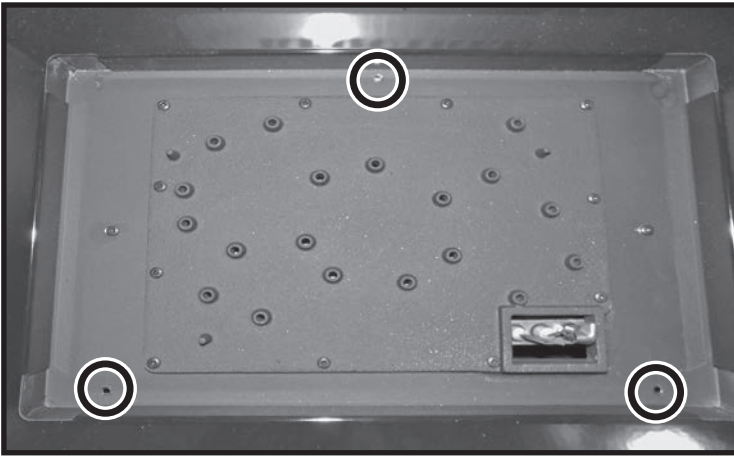

Figure 28: Removing front burner tray screws.
6. Remove the 2 front and 1 rear screws holding the burner tray in place (Figure 28).